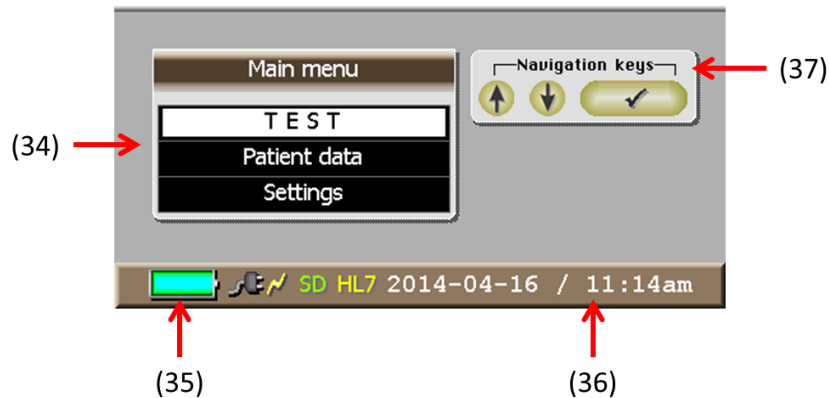

Figure 8: Main menu
When the **BIOSYNEX Reader** is switched on, the manufacturer's logo appears and the device is initialized. The version number of the firmware appears briefly. After that the main menu is shown on the display (**Figure 8**).
- (34) **Main Menu** window: Navigate with the cursor (see **section 2.5**) to select the menu items. The selected menu item appears against a white background. In **Figure 8** “TEST” is selected. Click *Enter* (✓) to open the menu.
- (35) **Batteries' state of charge:** When the battery symbol is filled in green, the batteries are fully charged. During operation without a charger or power supply unit, the display bar will shrink down to empty when the batteries are discharged. The operating time is listed in the specification.
- (36) **Date/Time:** The first time operation is started this can be configured under the “Settings” menu and should be checked regularly for correctness afterwards.
- (37) **Navigation Help** window
To ensure the quality of the calibration there is the possibility for a quality control measurement. Therefore a quality control cassette is included in delivery (optional on request; figure 8 above).